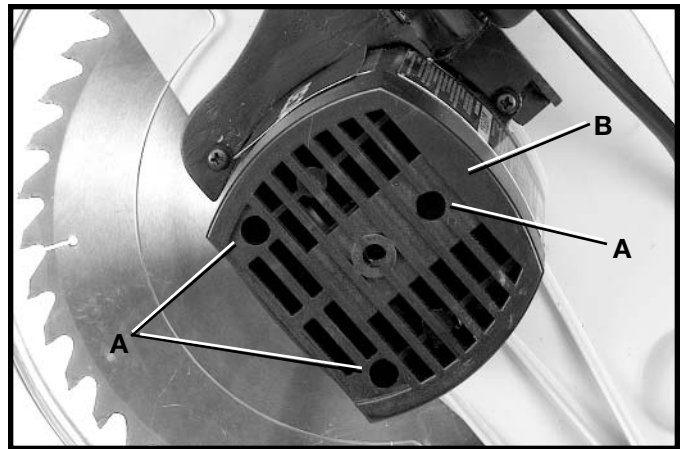

Fig. 43
2. Remove three screws (A) Fig. 43 and remove motor cover (B).